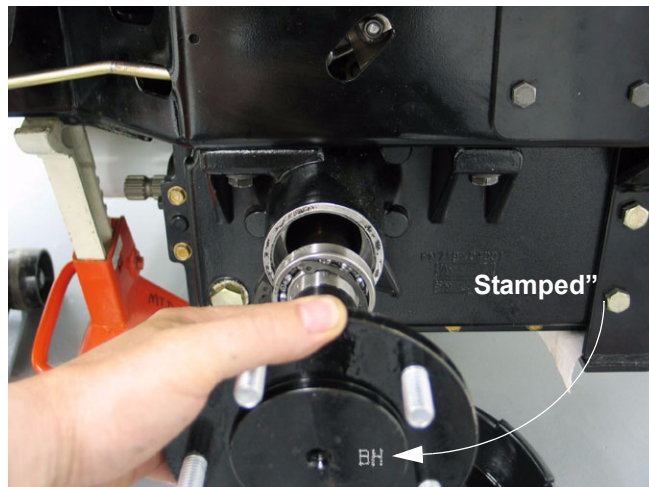

Figure 3.1
- 3.1. Slip the axle into the transmission housing. It may be necessary to rotate the axle in order to get the splines on the end to engage the splines on the differential assembly. Once in place, it may be necessary to lightly drive the axle home with a dead blow hammer. Significant force should not be required. See Figure 3.1.